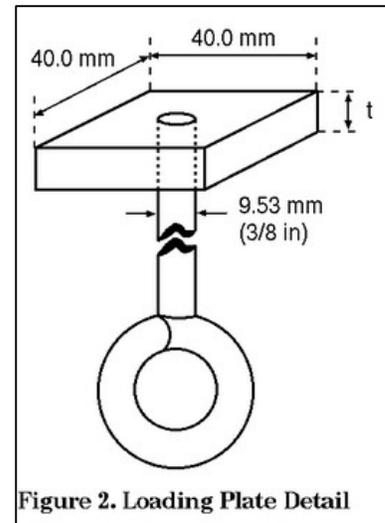

Figure 2. Loading Plate Detail
- Load Points:** The bridge must provide a horizontal support for the load at three (3) loading locations. These locations will be at the center and 40mm (1.60 in) to the right
and left of center. Any portion of the structure above the loading plane must provide clearance for the loading plate and for the cylindrical rod below the plate (Figure 2). The loading plane (P) must be between 0 and 20mm (0.80 in) above the support surface.
- f. **Roadway:** The bridge must allow a 48mm diameter (1.9 in.) pipe to be passed horizontally through or across the bridge with the pipe's lower surface on the loading plane (P). This pipe must touch all three loading locations simultaneously. This means that the roadway cannot be arched.
- b. **Loading Plate:** Load will be applied by means of a 40mm (1.60 in.) square plate (Figure 2). The plate has a thickness (t) between 6mm and 13mm. A 10mm (3/8 inch) diameter eyebolt is attached from below to the center of the plate. Force will be applied to the eyebolt.